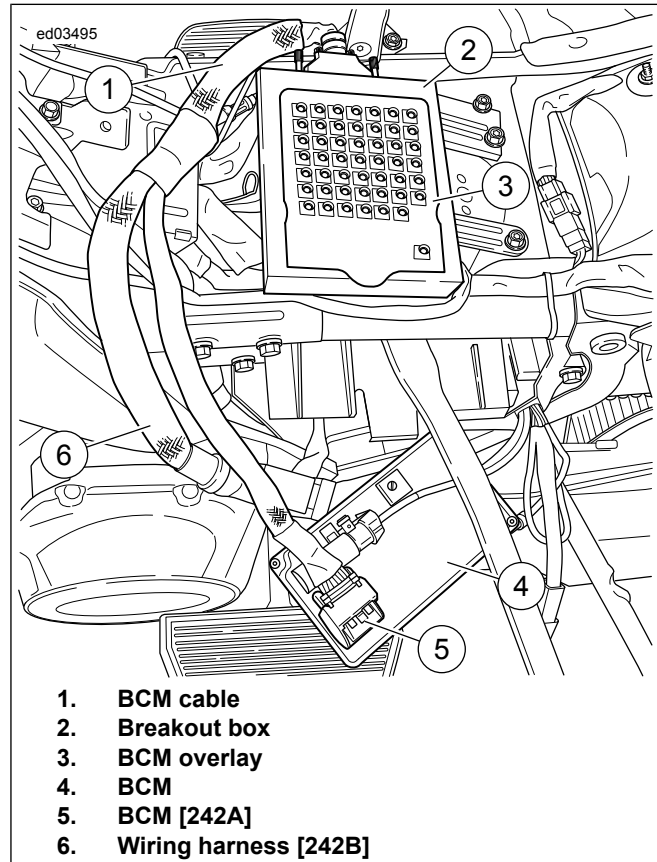

Figure 1-10. BCM Breakout Box Connection
- See Figure 1-10. Connect **BREAKOUT BOX (PART NUMBER: HD-50390-1)** and **BCM CABLE (PART NUMBER: HD-50390-2)** to connectors.